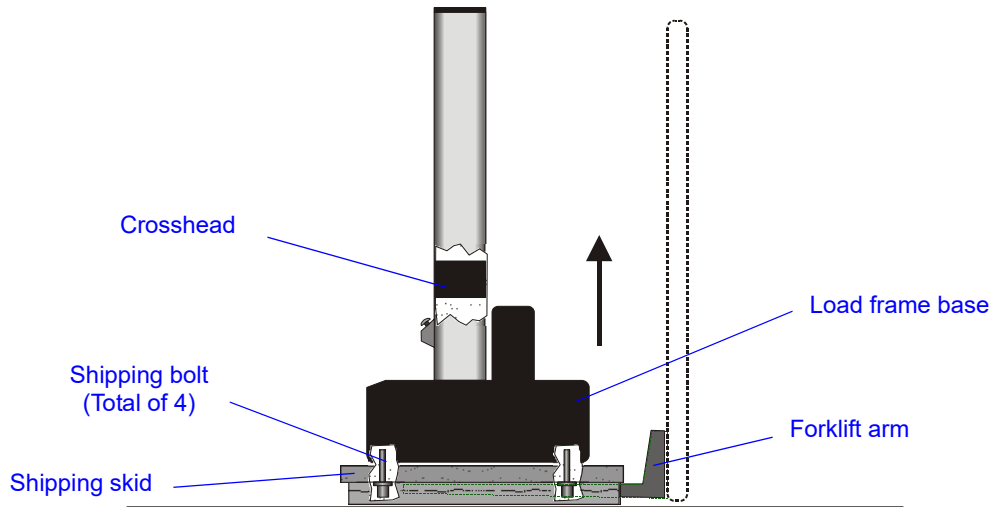

Figure 3-2. Lifting the Frame from the Base
- Frame Base method - Using a forklift to lift the upright load frame from underneath the base with the shipping skid still attached. Refer to Figure 3-2 on page 3-10.
2. Carefully insert the forks under the shipping skid as shown in Figure 3-2 on page 3-10.